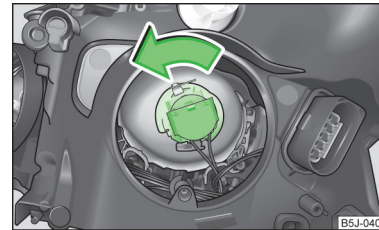

Fig. 163 Removing the bulb for the low beam
- Turn the socket with the bulb to the stop in the direction of the arrow » Fig. 163 and remove it.